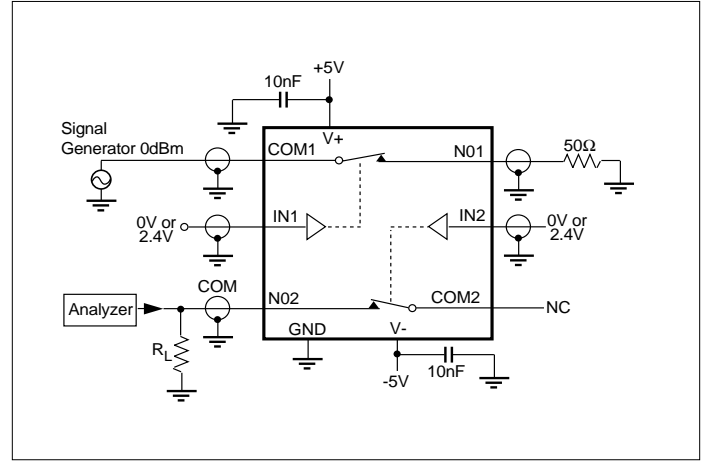

Figure 6. Crosstalk
8. Between any two switches. See figure 6.